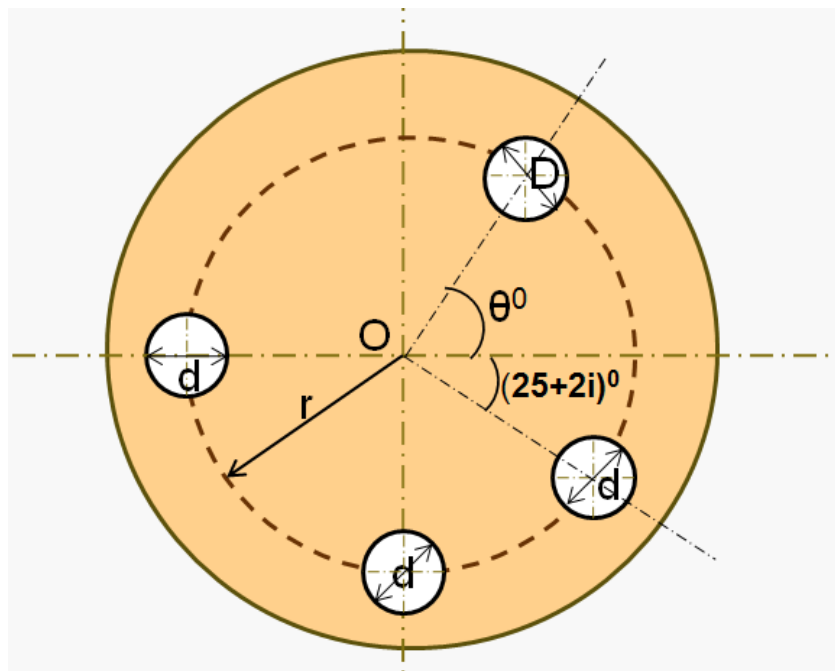

Fig. 5
5. The circular disk rotates about an axis through its center O and has three holes of diameter d positioned as shown in Fig. 5. A fourth hole is to be drilled in the disk at the same radius r so that the disk will be in balance (mass center at O). Determine the required diameter D of the new hole and its angular position (θ).